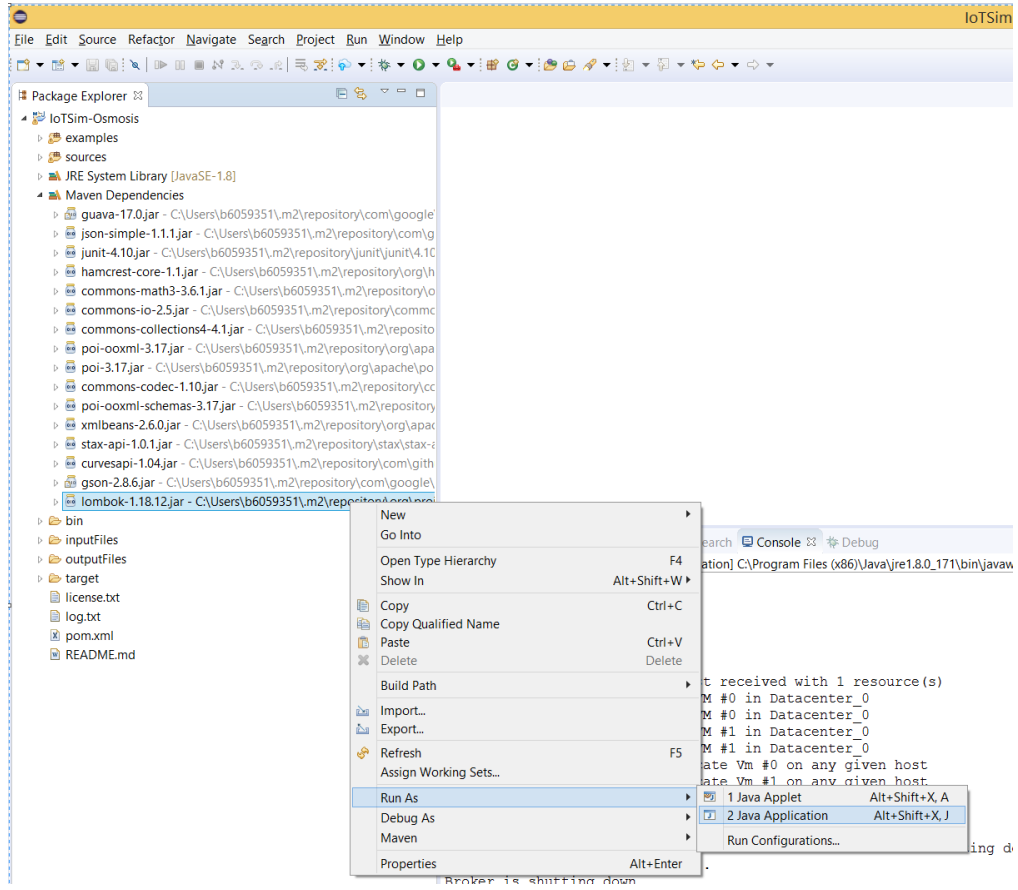

Figure 8
Step 7: IoTSim-Osmosis uses Lombok library to configure its entities. Open Maven Dependencies directory, right click on Lombok*.jar file, Run As Java file and then follow the instructions (see Figure 8). Refer to YouTube Lombok tutorial if you encounter problems.